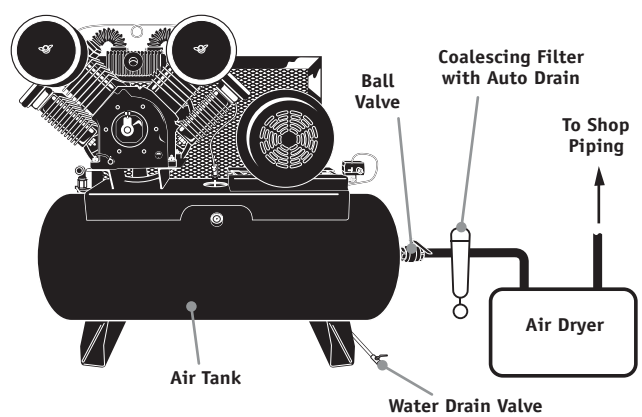

Figure 4: Basic Piping Diagram
- Install appropriate ASME code safety valves and make sure piping system is equipped with adequate condensate drains. See figure 4.